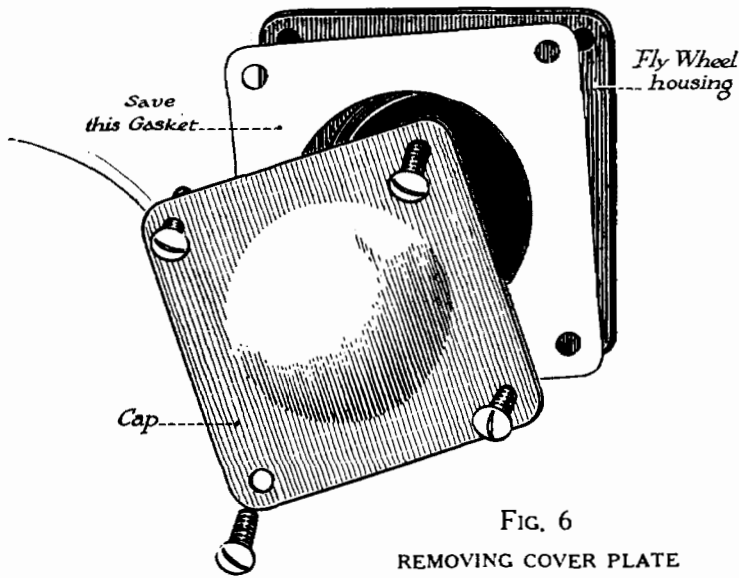

FIG. 6
1. Remove the square, thin cover plate at the left and in front of the flywheel housing, Fig. 6. This is done by taking out the four round-headed machine screws.